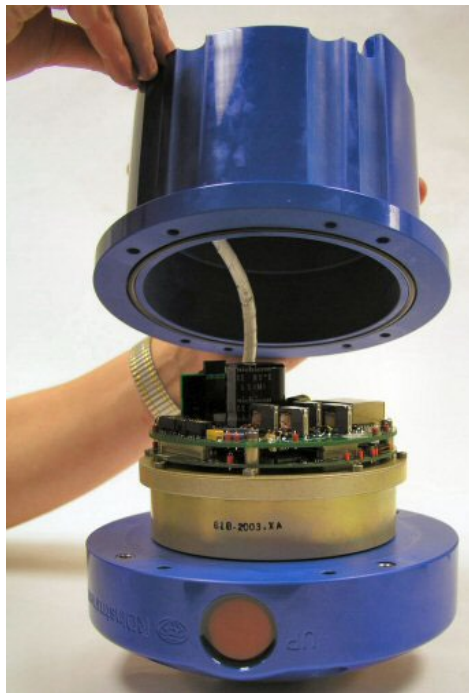

Figure 16. Removing the Housing
6. Carefully lift the housing assembly straight up and away from the transducer assembly until you can gain access to the connector jack on the top PC board (see Figure 16). Use care; the plastic mating surfaces scratch easily. Do not damage the mating surfaces.